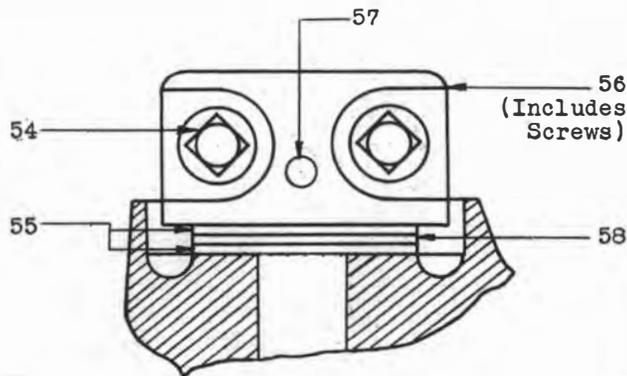

Fig. 14 - Thrust Collar Assembly
2.10 The following D-specification drives are the same as coded drives indicated in the table except that one or both vertical shaft couplings are replaced by thrust collars shown in Fig. 14.